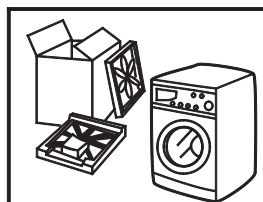

Fig. 1
- Remove all the packing materials (including the foam base) to prevent vibration during use, as shown in Fig.1. Upon opening of the package, water drops may be seen on the plastic bag and the porthole. This is normal phenomenon resulting from water test in the factory.